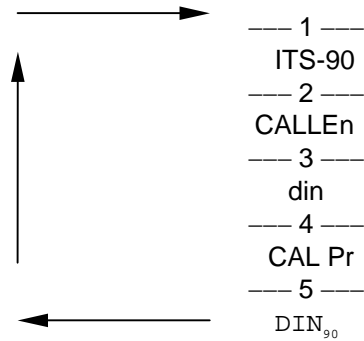

Figure 4-5. Temperature Selection Scrolling Menu
- vii) The 5 data entry options will now be displayed sequentially as shown in Figure 4-5. To select the option you require for your PRT, 1, 2, 3, 4 or 5, press the appropriate number on the keypad. For example, if data entry is required in Callendar van Dusen Co-efficients - press [2]. On selecting the data conversion method, the display will momentarily flash confirmation of the operator's choice.